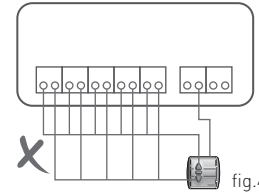

fig.4
- The DCT2RTS interface requires 12-24VDC power. The power cable is connected to the power terminal (item 1) using the screw to fix it.
- All DCT input port cannot be connected (short circuit) together. (fig.4)